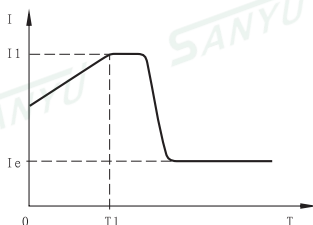

Figure 12-4-1
- a) The motor will be under current starting mode when code F9 is set to 4(current ramp). Figure 12-4-1 shows the output current wave of the current ramp starting mode, T_1 is the time value set by code F1.